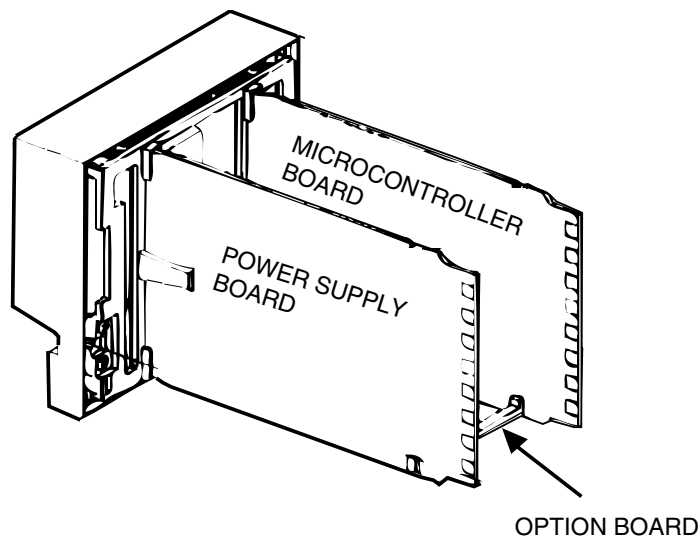

Figure 3.1
The locations of certain jumpers and module on the printed circuit boards will allow different types of inputs and outputs to be connected to the stations. Figure 3.1 shows the position of these circuit boards inside the station. To access these boards:
10. Align the board assembly with the front face assembly, with the Option board at the bottom (see Figure 3.1). Reinstall the retention clips. Align the boards